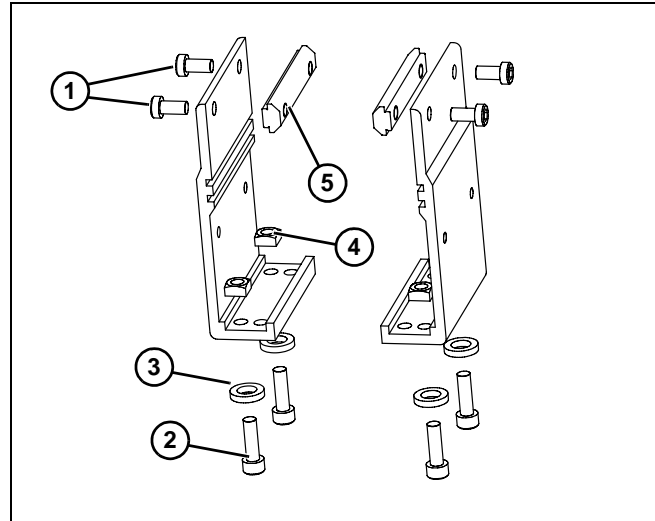
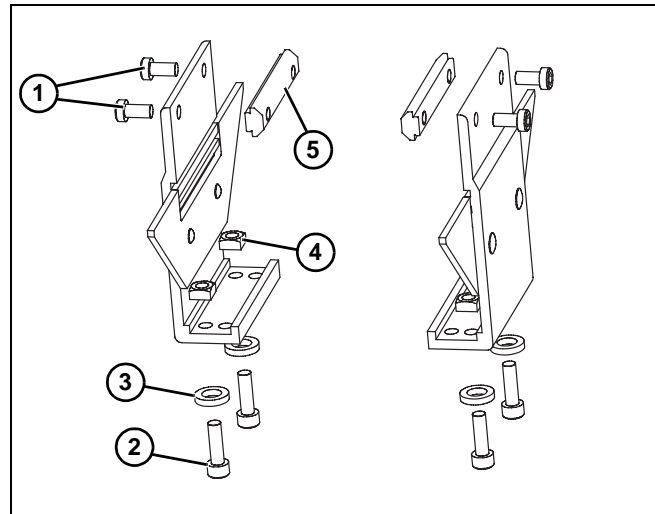
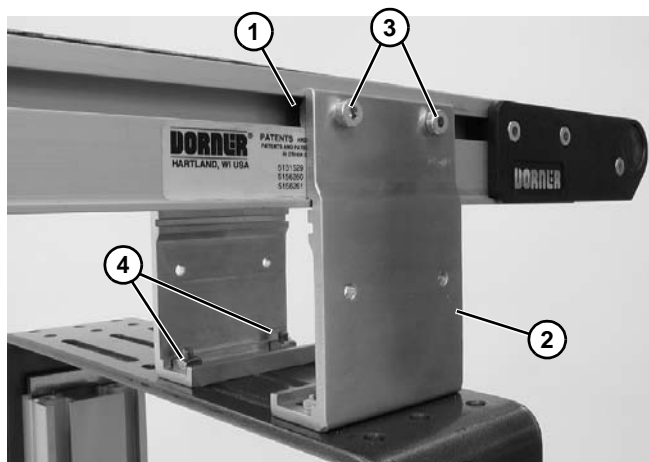

Figure 6
Figure 7
Figure 8
1. Locate brackets. Exploded views shown in Figure 6 and Figure 7.
2. Remove screws (**Figure 6, item 1 and 2**) or (**Figure 7, item 1 and 2**), washers (**Figure 6, item 3**) or (**Figure 7, item 3**), nuts (**Figure 6, item 4**) or (**Figure 7, item 4**), and T-bars (**Figure 6, item 5**) or (**Figure 7, item 5**), from brackets.
3. Insert T-bars (Figure 6, item 5) or (Figure 7, item 5) into conveyor side slots (Figure 8, item 1). Fasten brackets (Figure 8, item 2) to conveyor with mounting screws (Figure 8, item 3).
4. Fasten brackets to support stand with mounting screws, washers, and nuts (Figure 8, item 4).
5. Tighten screws (Figure 8, item 3), and mounting screws on nuts (Figure 8, item 4) to 60 in-lb (7 Nm).